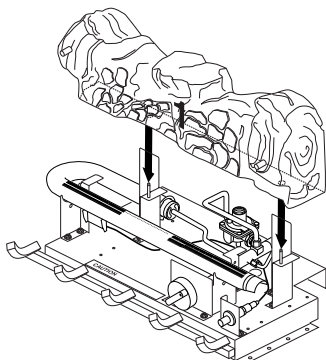

Figure 24 - Rear Log Placement (Variable Manually-Controlled Models)
1. Place rear log on 2 pins on rear brackets (see Figure 24).